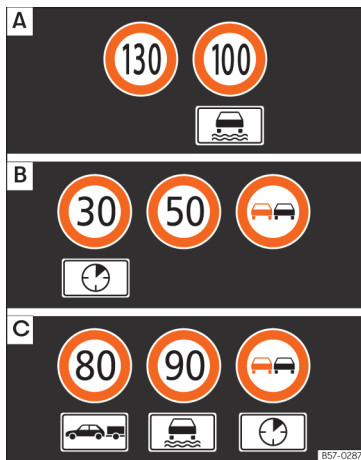

Fig. 77 On the instrument panel display: examples of speed limits or overtaking prohibitions with their respective additional signs.
displayed, » Fig. 77 [B] with their additional signs.
- **First:** The sign that is currently valid for the driver is shown in the left side of the screen. For example, a maximum speed limit of **130 km/h (100 mph)** » Fig. 77 [A].
- **Third:** A sign valid only with restrictions, e.g. No overtaking at certain times, will be displayed in third place » Fig. 77 [C].